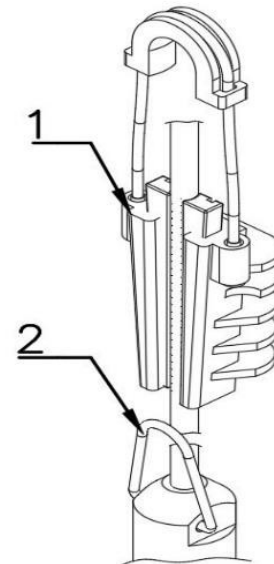

Figure 1. Mounting brackets for probes
The depth probes are installed in places where the liquid level is measured in wells, tanks, boreholes, etc. The probe is immersed in the measured medium. A special cable extends above the medium level and can be connected directly to the device cooperating with the probe or to the junction box. Probe can be hung on the power cable, e.g. by using Aplisens SG cable hanger (item 1 in Fig. 1). In the event of frequent removal of the probe or when there is a risk of catching on protruding elements during pulling up, it is recommended to hang the probe on a steel cord using the carrying eye (item 2 in Fig. 1 - does not apply to SGE-16 probes). Probe with an additional Teflon shielding on the cable should be hung on a carrying cable or on an internal cable (do not grab the Teflon shield). Hang the probe in Ex version with the grounding cord only by the lifting eye on an additional supporting wire.